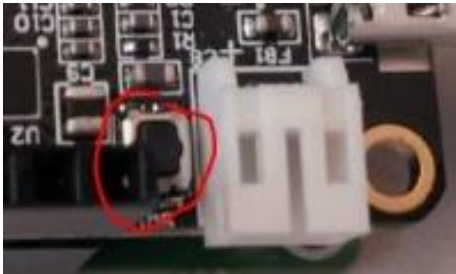

Figure 4. MAX32630FTHR host reset button.
6. Press the reset button on the MAX32630FTHR, as shown in **Figure 4**.